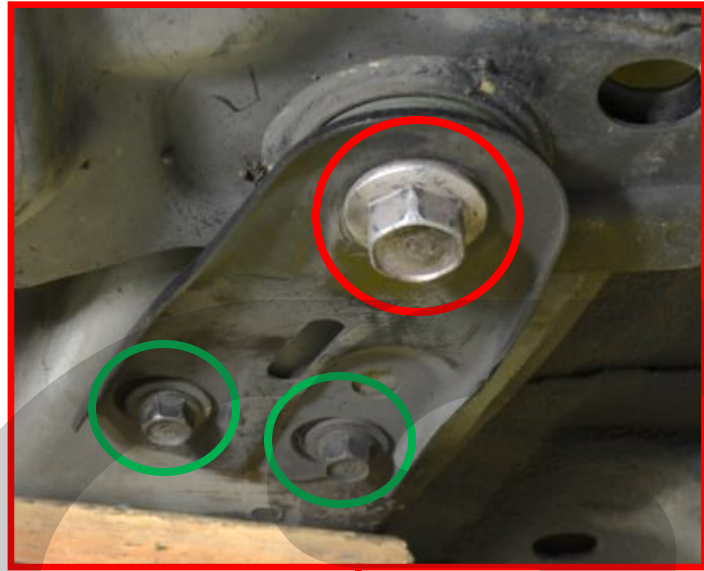

Figure 2c
- c) Remove the four (4) support brace bolts (two shown by the green circles in Figure 2c) using a ratcheting wrench and 12mm socket.
- d) Remove the two (2) 21mm bolts (one shown by the red circle in Figure 2c) using a ratcheting wrench and 21mm socket and remove the two small chassis braces from the vehicle.